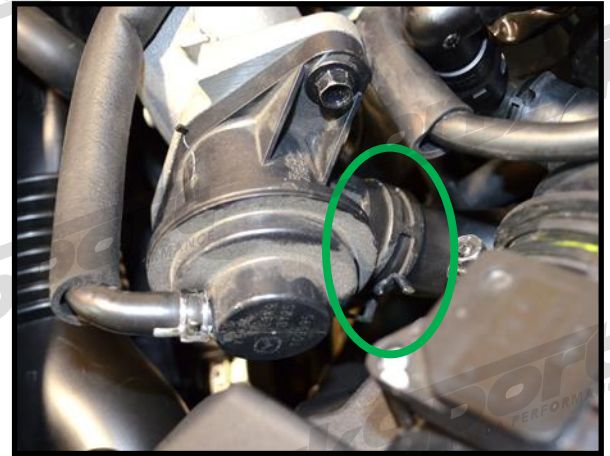

Figure 1c
- c) With pliers again, reach down and pull back the large spring clamp on the bypass to intake hose. Pull the hose off of the bypass valve (green oval **Figure 1c**).